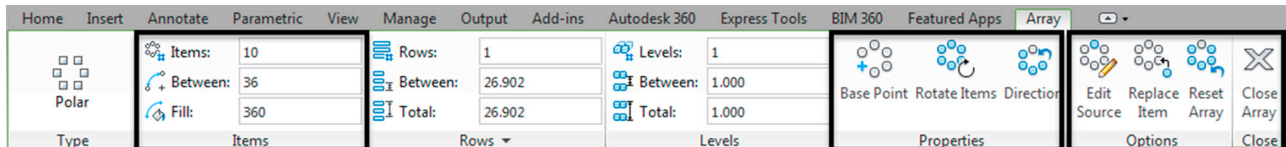

FIGURE 8.5 Polar array tab: Items, Properties, and Options/Close.
The Polar Array Ribbon has three areas of interest, the Items, Properties, and the Options/Close category, as seen in Fig. 8.5. The Items category we already mentioned and it is relatively self-explanatory. Top to bottom, the first value (10) is the number of items in the array, and you can change it for an instant update. Below that is the angle between all the objects (36°), and finally, below that, the total angle filled (360° , or a full circle). This should make sense as $36 \times 10 = 360$.